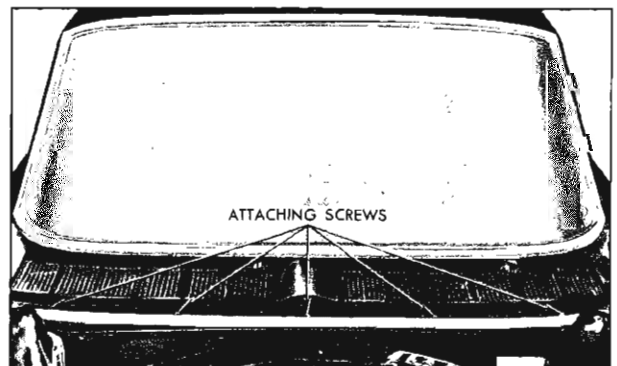

Fig. 11-25 Air Intake Grille
3. Raise hood, remove screws securing grille to shroud (Fig. 11-25).
5. To install, apply medium-bodied sealer around screw attaching holes and grille retaining slots (Fig. 11-25).